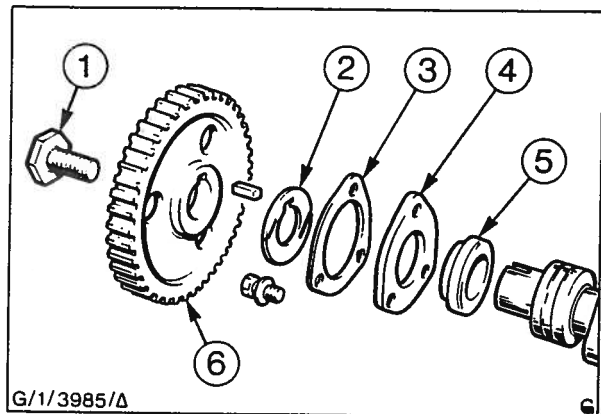

Fig. 26 - Camshaft Gear Assembly
41. Lock the camshaft gear to stop it turning and remove gear retaining bolt - see Fig. 26. Using a suitable puller remove the camshaft gear. Remove the thrust washer.
42. Remove the three bolts securing the camshaft gear lockplate and thrust plate to the front of the engine, remove the two plates and the camshaft thrust collar. (Fig. 26).